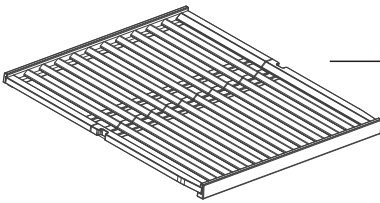
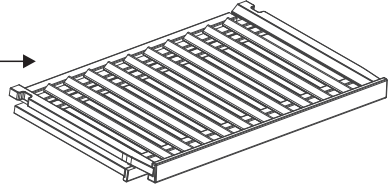
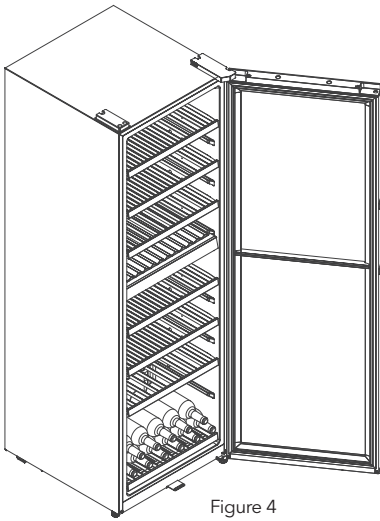
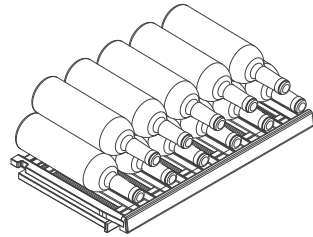

Figure 1
Figure 2
Figure 4
Figure 3
3. Folding wine rack (figure 1) has a folding function (figure 2), folded wine rack can be placed in the wine cabinet (figure 3), and placed in the the bottom layer of the box (figure 4).